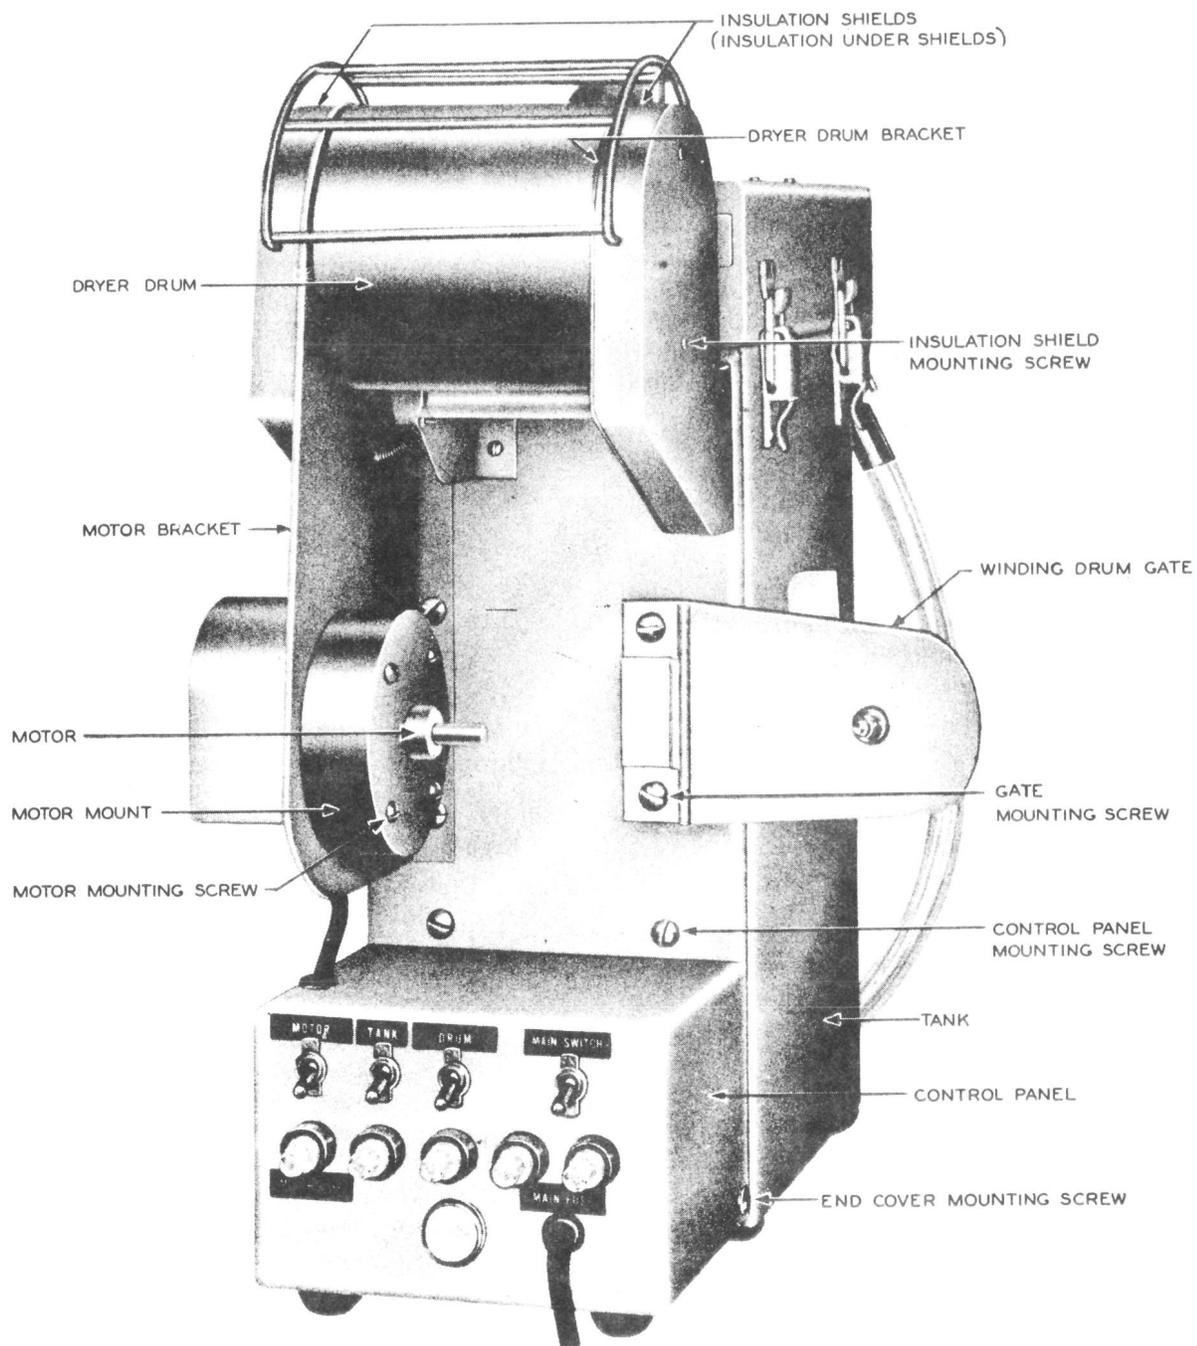
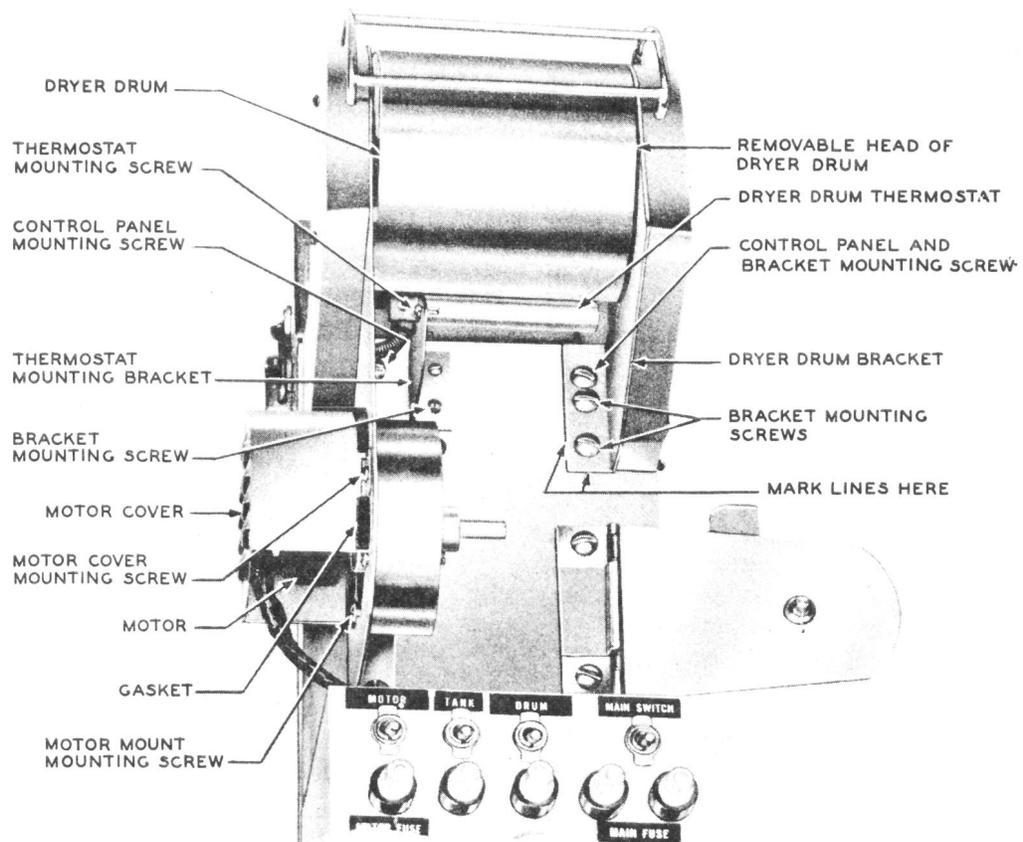

Fig. 8 - KS-14778 Photo Processor — End Cover and Winding Drum Removed
Fig. 9 – KS-14778 Photo Processor — Partial View Showing Motor and Associated Parts
3.03 If it is necessary to remove the end cover from the processor to replace any parts shown in Fig. 8, disengage the tank cover latches, loosen the end cover mounting screws with the 5-inch regular screwdriver, and lift the end cover from the processor.
3.04 If it is necessary to remove the access panel at the bottom of the processor control panel (Fig. 8) in order to replace parts, first make sure that the stabilizer and developer cans and the processor tank are empty and that the trunk cover is latched in place. Turn the processor on its side with the motor uppermost. Remove the access panel mounting screw with the 4-inch regular screwdriver.
3.06 *Insulation:* To replace the insulation under the insulation shields shown in Fig. 8, remove the shield mounting screws with the 4-inch regular screwdriver, and remove the shield. Remove the insulation. Using the old insulation as a pattern, cut slits in the new insulation with the B splicer's scissors so that the insulation can be fitted around the lugs on the bracket. Mount the insulation and insulation shield and securely tighten the mounting screws.
(1) Remove the insulation shield mounting screws using the 4-inch regular screwdriver, and remove the insulation shield and insulation at each end of the drum. Unscrew the wire connectors from the heater leads at the left end of the drum, remove the connectors, and free the ends of the leads.
(2) Referring to Fig. 9, mark lines on the processor with a sharp pencil to indicate the position of the bracket at the right end of
(1) Remove the insulation shield mounting screws at the left end of the dryer drum using the 4-inch regular screwdriver and remove the insulation shield and insulation. Unscrew the wire connectors from the thermostat leads, and free the ends of the leads. Referring to Fig. 9, remove the thermostat bracket mounting screws with the 4-inch regular screwdriver and remove the thermostat and bracket. Remove the thermostat mounting screws with the 4-inch regular screwdriver and remove the thermostat from the bracket.
(2) Substitute new parts as required, and remount the parts in reverse order of removal. Position the thermostat mounting
3.09 Motor Cover and Gasket: Referring to Fig. 9, remove the motor cover mounting screws using the 4-inch regular screwdriver, and remove the motor cover and gasket. Remove the gasket from the motor cover. Substitute new parts as required and remount the parts in reverse order of removal.
(1) Remove the access panel at the bottom of the processor control panel as covered in 3.04. Note the terminals to which the motor leads are connected, and disconnect the motor leads. Remove the motor lead strain relief ring.
(2) Turn the processor upright. Unlatch the winding drum gate and remove the winding drum. Remove the motor cover mounting screws using the 4-inch regular screwdriver and remove the motor cover and gasket. Remove the motor mount mounting screws shown in Fig. 9 using the 4-inch regular screwdriver. Remove the motor mount and motor and pull the motor leads through the grommet in the control panel. Remove the motor mounting screws shown in Fig. 8, using the 4-inch regular screwdriver, and remove the motor from the motor mount.
(3) Substitute new parts as required, and mount the parts in reverse order of removal. When mounting the motor mount on the motor bracket, take care that the holes in the bracket and motor mount for the motor cover mounting screws line up. Turn the processor on its side with the motor uppermost, and connect the motor leads to the proper terminals. Remount the strain relief ring and the access panel, and turn the processor upright.
(1) Remove the gate mounting screws shown in Fig. 8, using the 5-inch regular screwdriver, and remove the gate. If the hinge pin is to be replaced, remove the pin using the R-2959 wrench to start it out of the hinge if necessary.
(2) Substitute new parts as required and mount the parts in reverse order of removal. Partially tighten the gate mounting screws. Remount the winding drum, and check that the drum bearing pin on the gate lines up properly with the associated hole in the winding drum. Shift the gate slightly, if necessary, to obtain this alignment. Tighten the gate mounting screws securely.
3.18 *General:* To replace these parts it is necessary to remove the control panel from the tank of the processor. To do this, remove the access panel from the bottom of the control panel as covered in 3.04. Using the KS-8097 wrench, remove the control panel mounting nuts and lockwashers adjacent to the tank heater and thermostat. Turn the processor upright, and remove the control panel mounting screws shown in Fig. 8 and 9, using the 5-inch regular screwdriver. Carefully withdraw the control panel from the tank so that the heater and thermostat do not bind in their receptacles in the tank. Lay the control panel on its side with the motor uppermost.